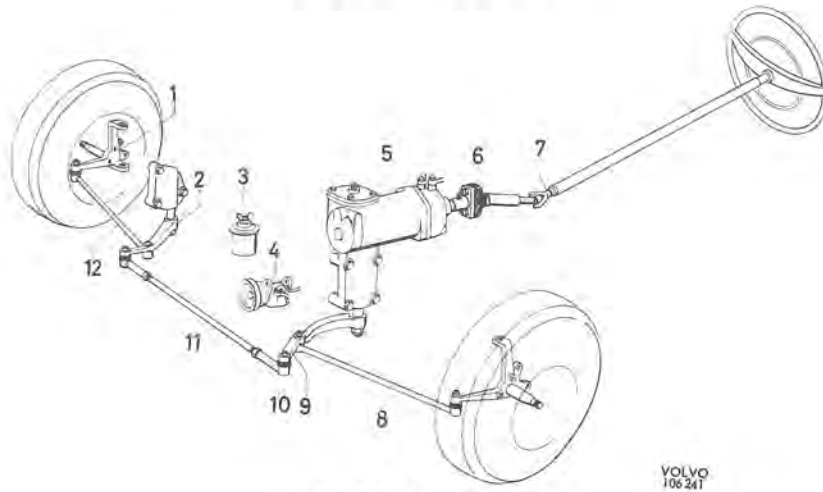

Fig. 6-33. Steering gear
The design of the steering is shown in Fig. 6-33. Steering wheel movement is transmitted to the wheels via the steering column (7), the steering box (5), the pitman arm (9), the tie rod (11), the steering rods (8 and 12) and the steering knuckles (1). Steering power is boosted by the power mechanism.
The ball joints of the steering rod are plastic-lined, and this makes maintenance lubrication unnecessary. The tie rod (11, Fig. 6-33) has replaceable ball joints (tie-rod ends) while the ball joints of the steering rods (8 and 12) are made in one piece with the rod.